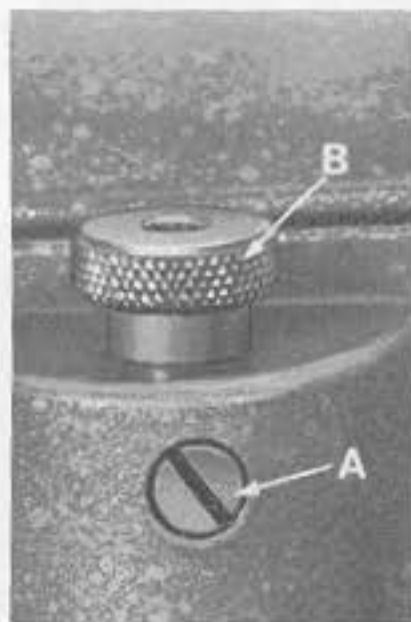

Fig. 12
Fig. 12 illustrates the stitch regulator. For timing the hooks, it is recommended the regulator be turned to produce shortest stitch length. To do this, loosen lock screw (A) and turn the stitch regulator (B) counterclockwise as far as possible. Lock in position by tightening lock screw (A).